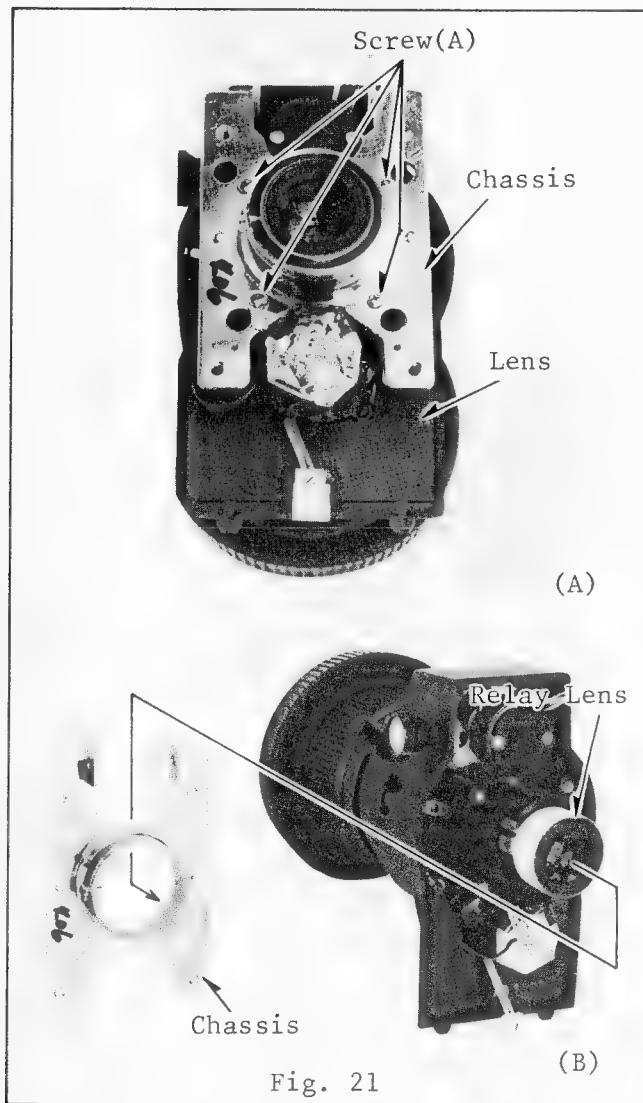

Fig. 21
6-2. Unscrew 4 screws (A) and remove the lens assembly from the chassis (see Fig. 21).
6-3. Remove the relay lens (see Fig. 21-B).